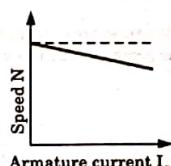

Fig. 3.1.1. Speed-armature current ( $N/I_a$ ) characteristic of a shunt or separately excited DC motor.
6. Eq. (3.1.2) is the equation of a straight line with a negative slope. That is, the speed  $N$  of the motor decreases linearly with the increase in armature current as shown in Fig. 3.1.1.